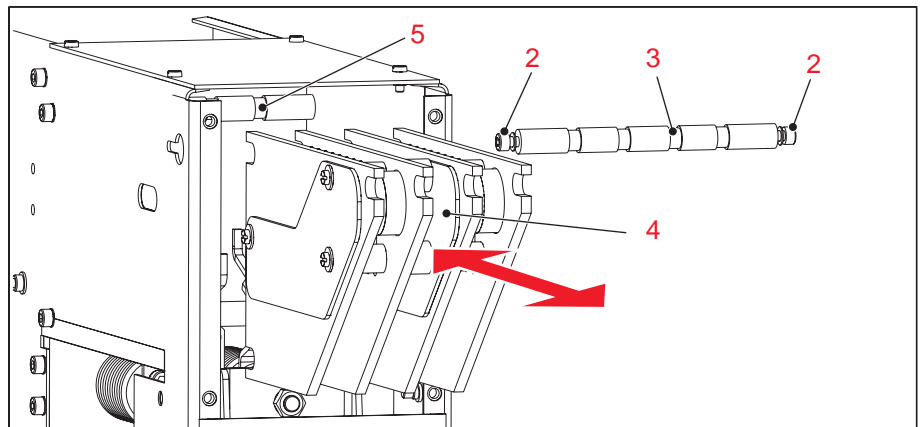

Figure 27
4. Pull out the complete arc chamber (4) to the front, see **Figure 27**.
5. Check all the ceramic parts and magnets of the arc chamber (4) for damages.
6. When parts are damaged, replace the complete arc chamber (4).